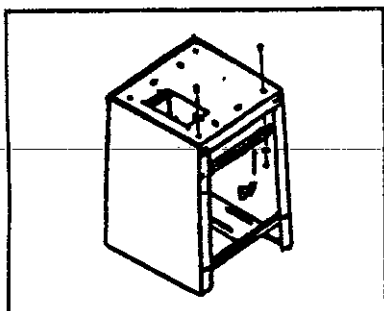
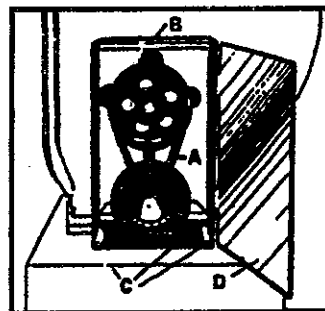

Fig. 6
Fig. 12
Please Remember to Tighten all screws and check that if the stand is firm enough. Fig. 6.
Place the belt and pulley guard(B) Fig. 12, on the top shelf over the belt opening. Use the four round head screws(C) to fasten in place. Place door(D) Fig. 6, on hinges.